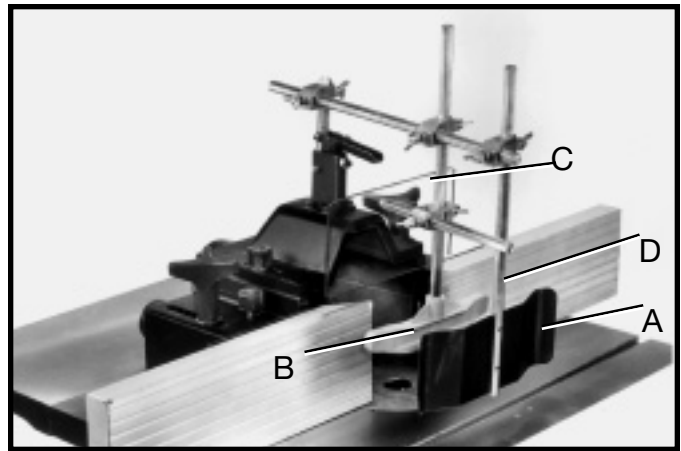

Fig. 55
The spring clamp (A) Fig. 55, holddown (B), and clear plastic guard (C) are fully adjustable to provide safe protection for most applications. **NOTE: For certain applications, a Delta Wood Shaper Spindle guard may need to be used, or a custom guard may need to be fabricated.**
1. Using a square (not shown), check to see if shaft (D) Fig. 55, on spring clamp (A) is 90 degrees to the table surface. If an adjustment is necessary, proceed as follows: